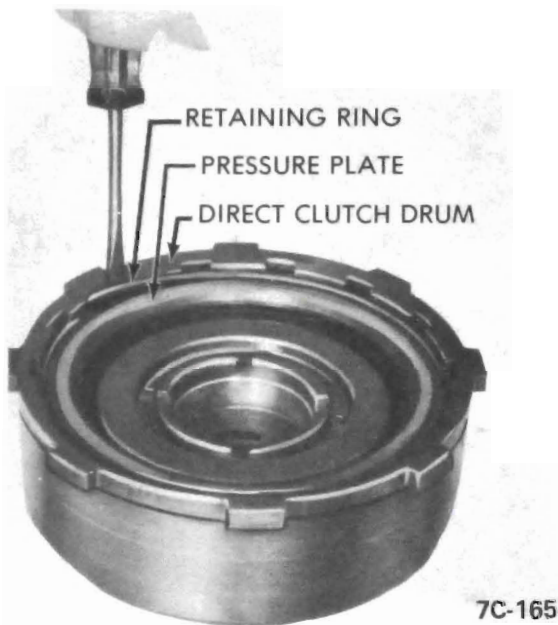

Figure 7C-100
6. Remove four (4) lined and four (4) steel plates from direct clutch housing (five (5) each in KL- 375B Models). See Figure 7C-101.